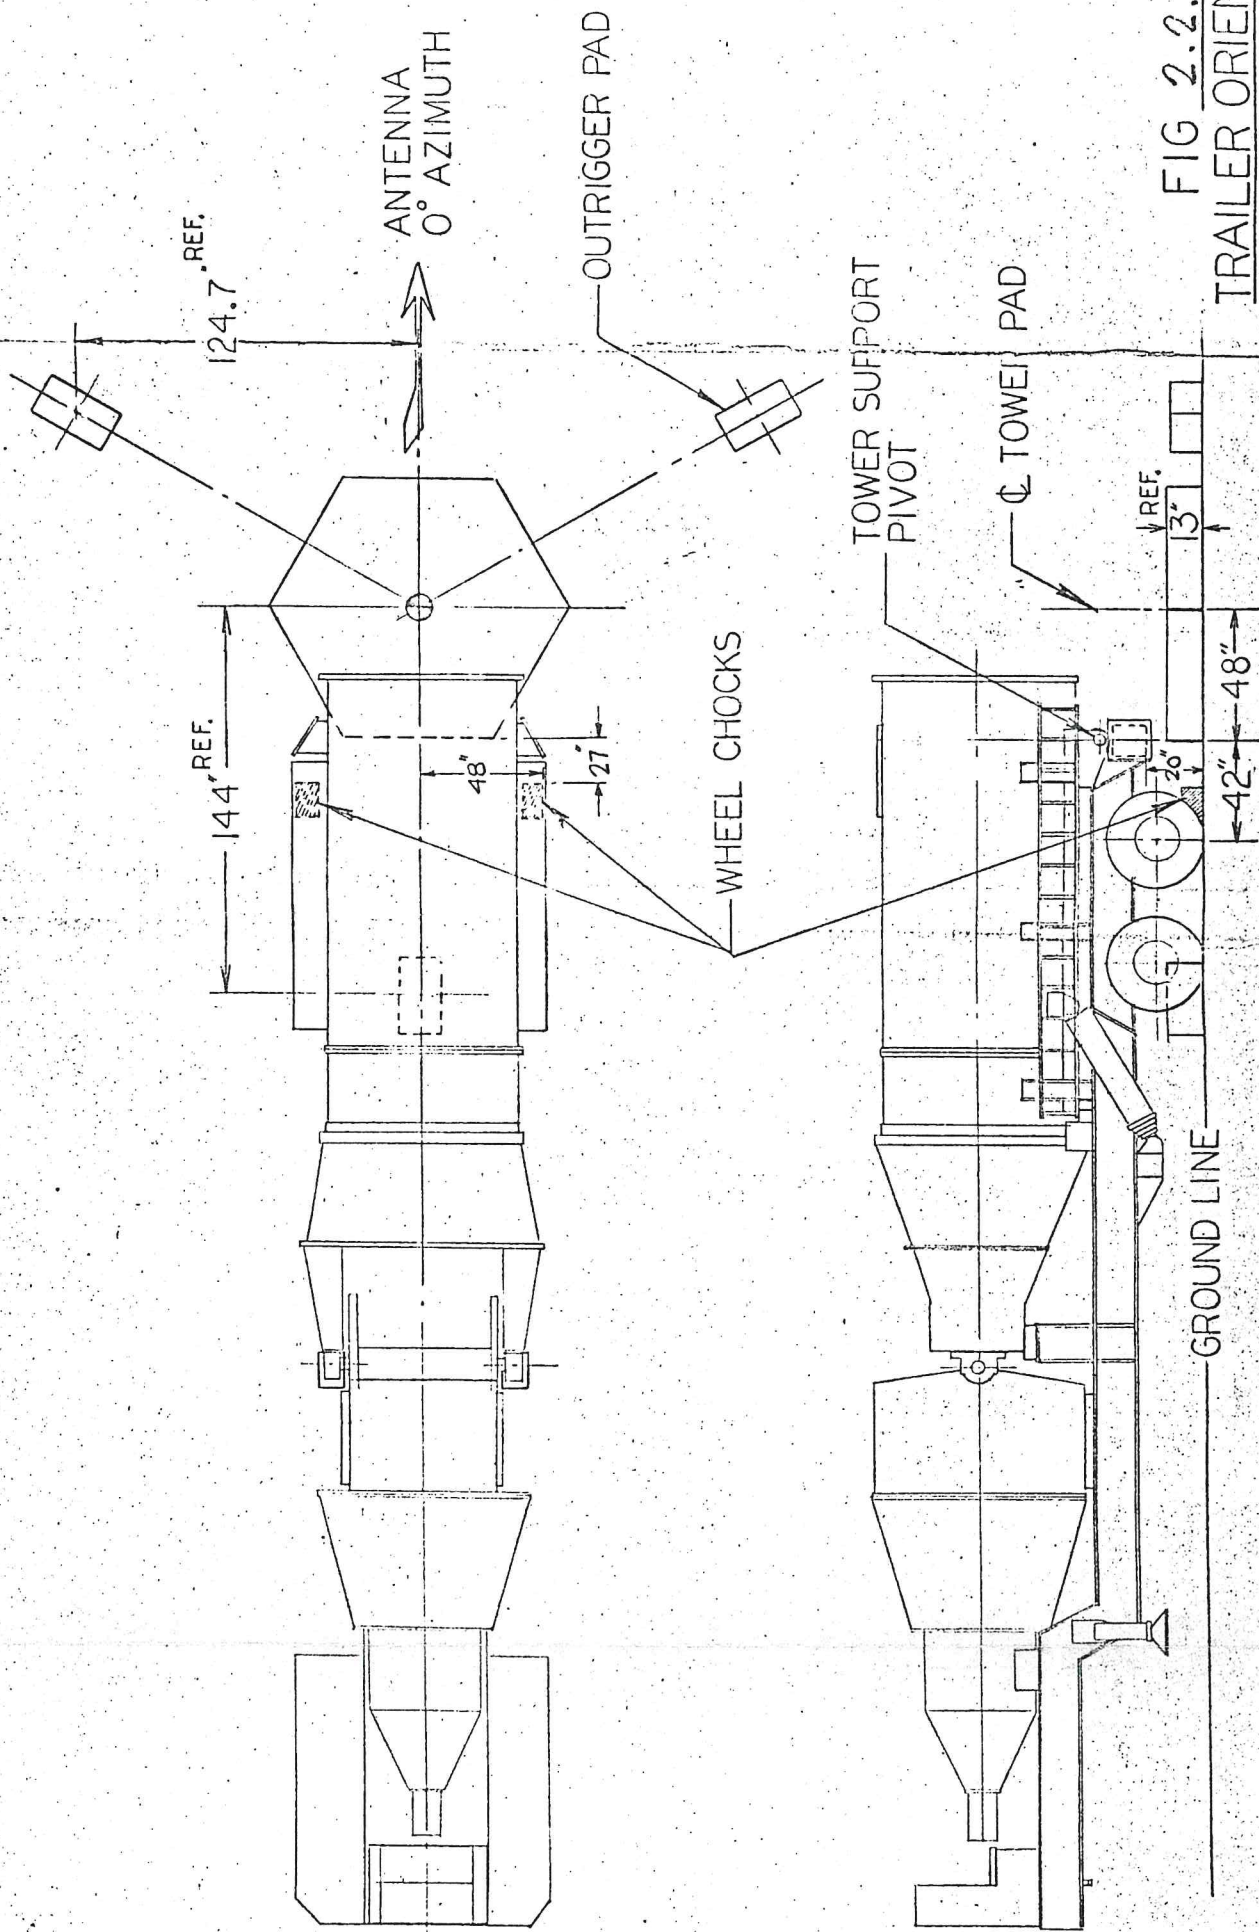

FIG 2.2.1
- (b) Align and center trailer with respect to the ground pad location using trailer locator (see Figure 2.2.1) backing trailer slowly until the rear wheels of the trailer engage with the wheels checks.